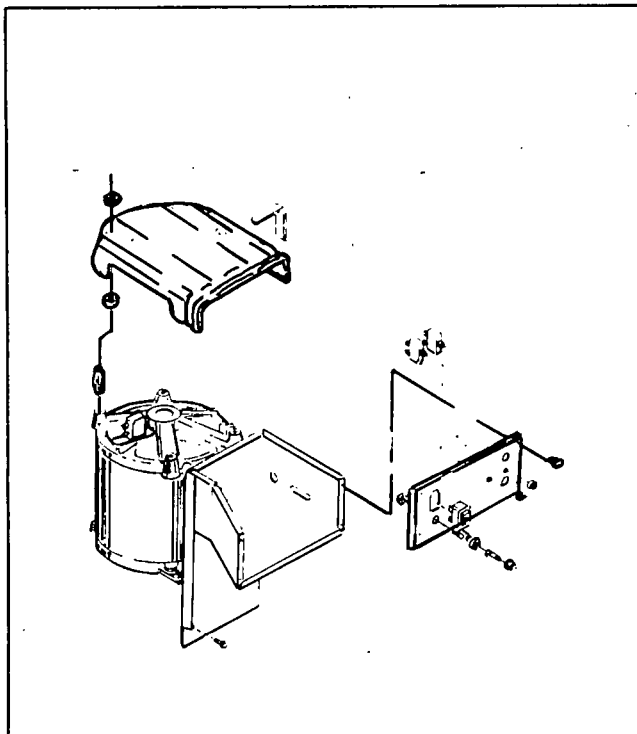

Figure 9. Cover and Panel Removal
1. Gain access to the generator panel interior by removing the generator cover and the front panel. See Figure 9.